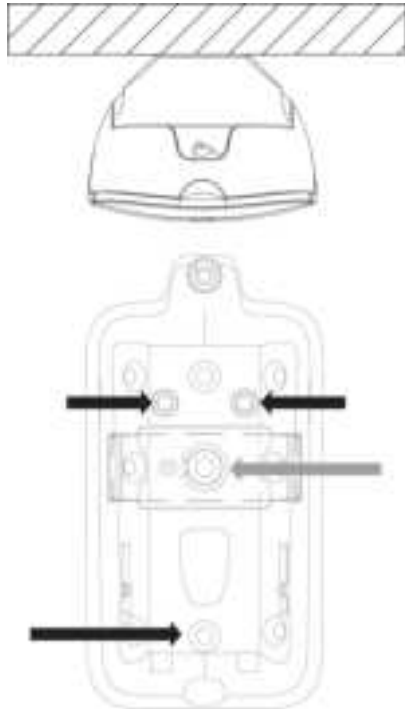

**Figure 3** EN1342-60 detection coverage area
4. Noting the detection coverage in Figure 3, determine mounting location.